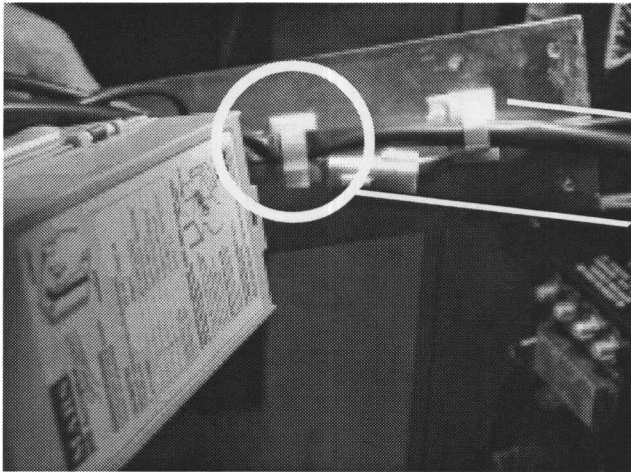

Figure 22
- C. Attach the two adhesive backed clips to the underside of the slider bracket. The will be used to direct wires away from the validator later in the installation (Figure 22, page 9).
- A. Attach the 2 of the clips included to the underside the slider bracket and run the two harnesses from the validator into the clips (Figure 22).